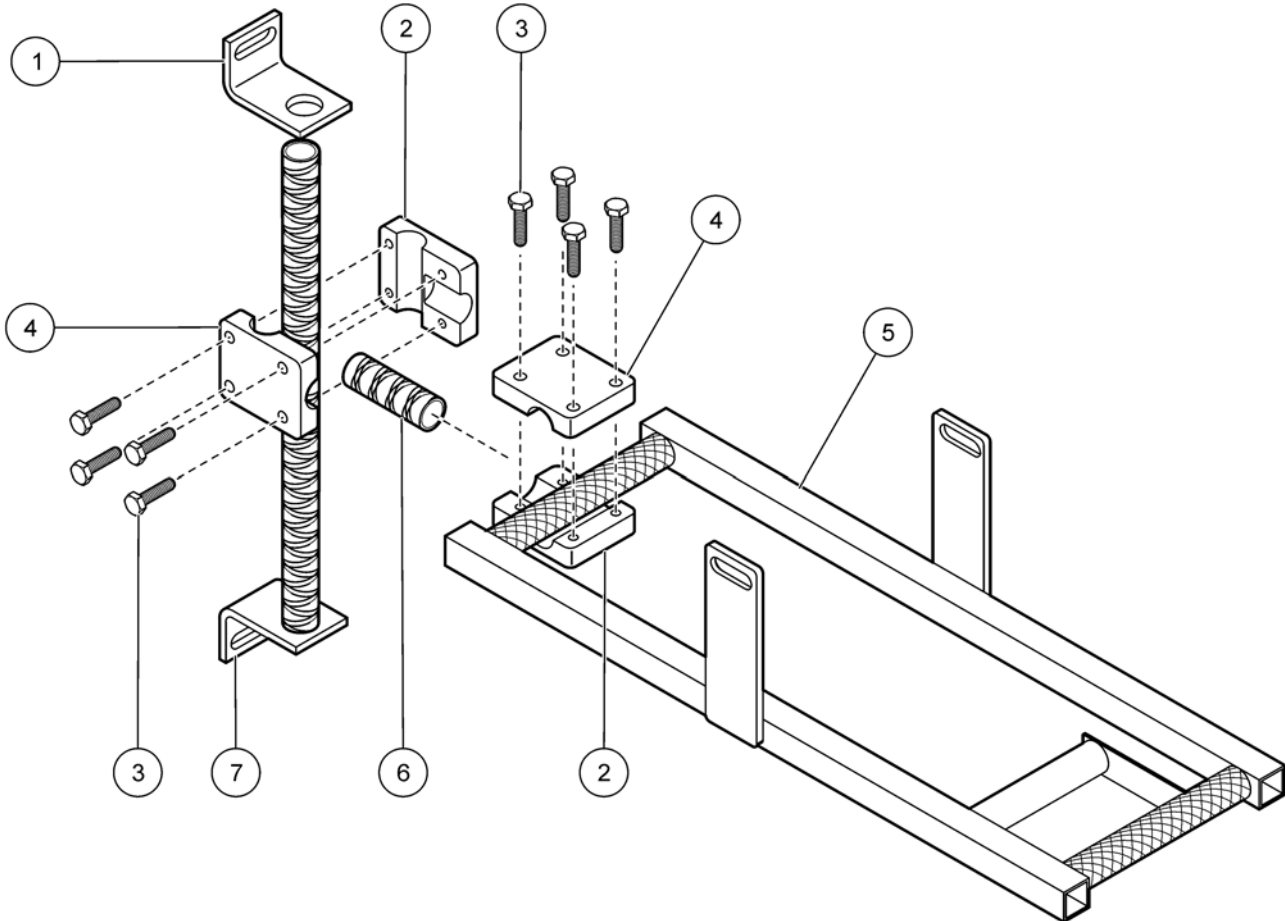
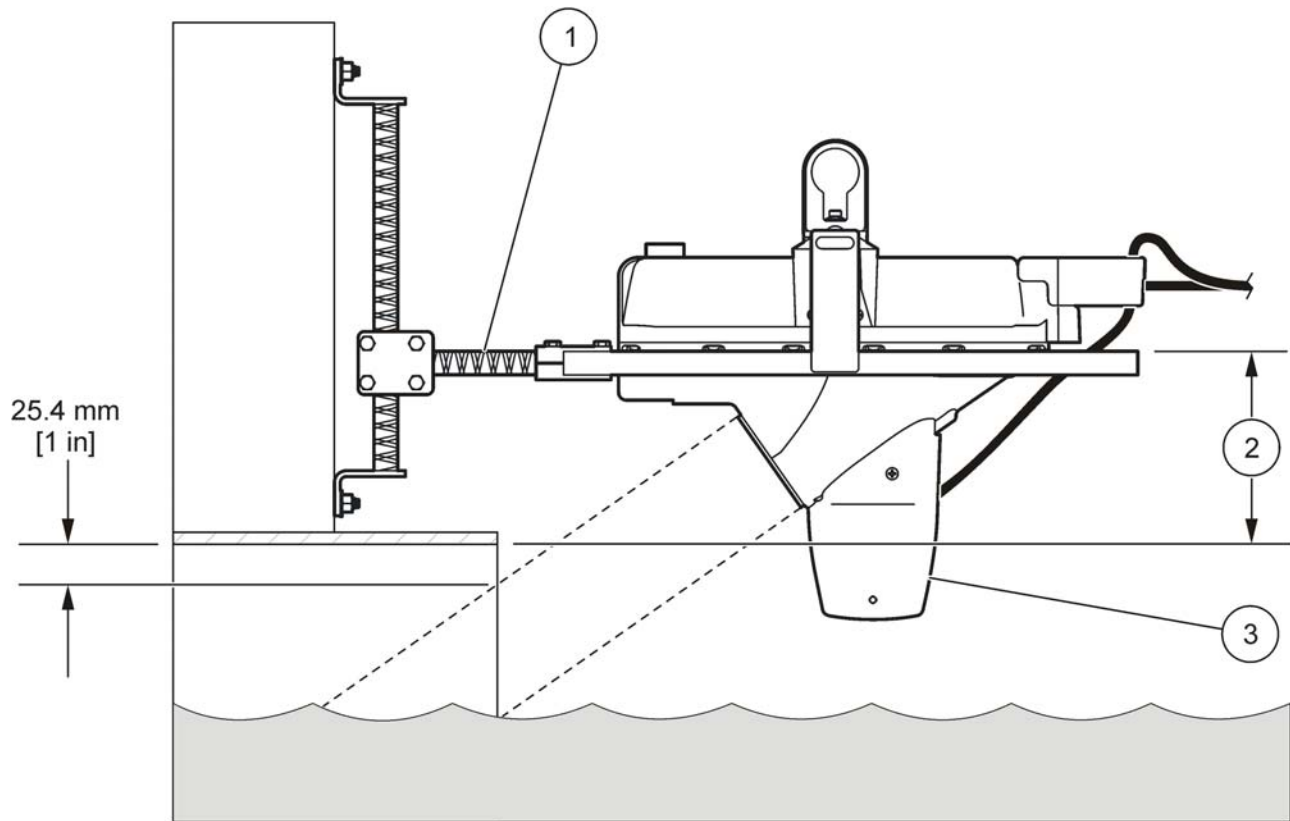

Figure 8 Clamps assembled on wall bracket and frame
Figure 12 Vertical alignment of Flo-Dar sensor with SVS
1. Position two clamp halves (one with threads and one without threads) around the wall mount bracket as shown in Figure 8.
- Position the other two clamp halves around the front end of the frame as shown in Figure 8.
Note: In most cases the front of the frame will point toward the wall as shown in Figure 8 (see also Figure 12 on page 23). If flow conditions require the sensor to point away from the wall, use the 12-inch spacer and position the two clamp halves around the back end of the frame.
2. If the pipe lip is longer than 5½ inches, install the 12-inch spacer between the wall mount bracket and the frame (Figure 12).